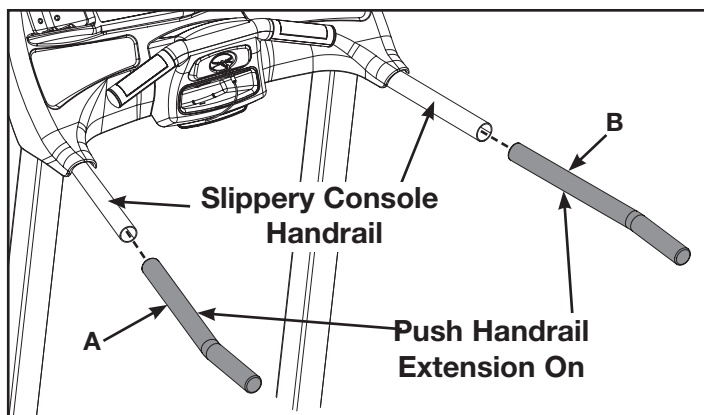

Figure 39
- B. Dampen a clean cloth in a mild soapy water solution and spread it on each console handrail. Feel the handrail to be sure it is slippery. See Figure 39.
**C.** While the console handrail is still wet and slippery, push each handrail extension on the console handrail. See Figure 39. **NOTE:** Push until you hear metal touching metal inside the grips and the grip holes line up with the holes in the handrail.